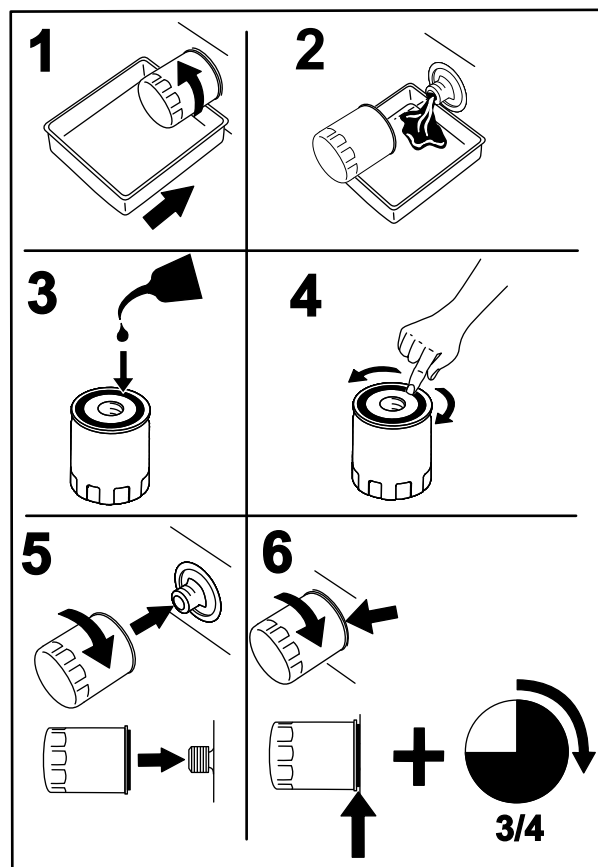

Figure 40
- Change the engine oil filter (Figure 40).